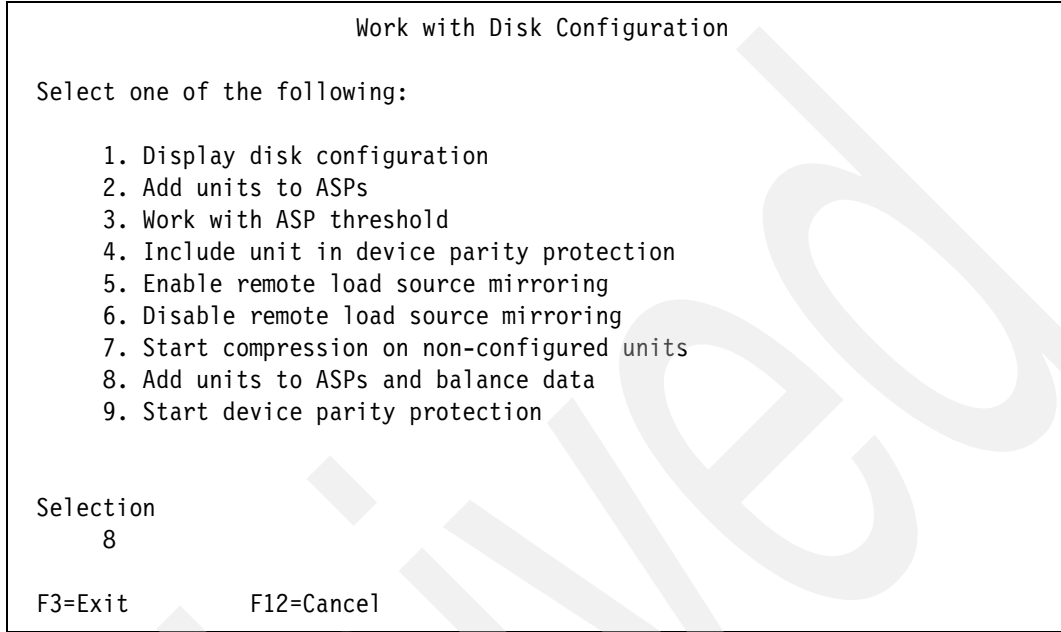

Figure 17-3 Work with Disk Configuration menu
- When adding disk units to a configuration, you can add them as empty units by selecting Option 2 or you can choose to allow IBM i to balance the data across all the disk units. Typically, we recommend balancing the data. Select Option 8, Add units to ASPs and balance data, as shown in Figure 17-3.